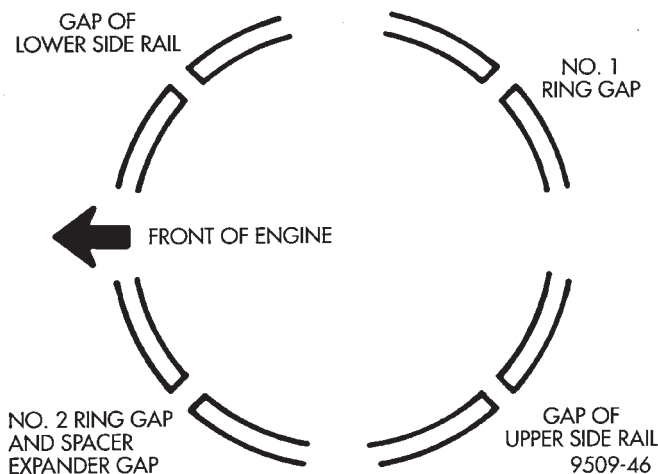

Fig. 92 Piston Ring End Gap Position
(1) Before installing pistons and connecting rod assemblies into the bore, be sure that compression ring gaps are staggered so that neither is in line with oil ring rail gap.
(2) Before installing the ring compressor, make sure the oil ring expander ends are butted and the rail gaps located as shown in (Fig. 92). As viewed from top.